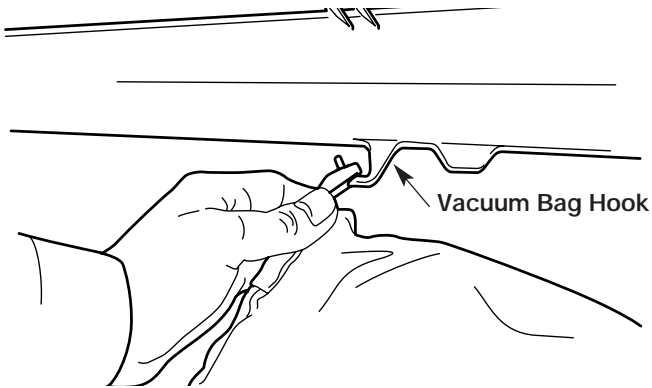

Fig. 3
1. Attach the vacuum bag to the vacuum bag hook on the blower/vacuum tube (Fig. 3)